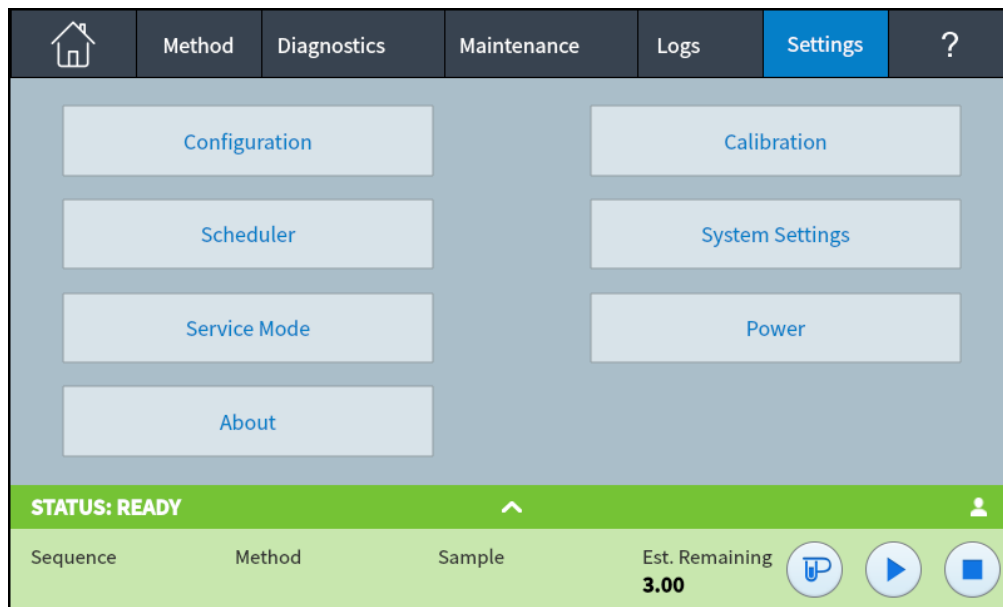

Figure 63. Settings view
- 1 Select **Settings**. The Settings view appears. See **Figure 63**.